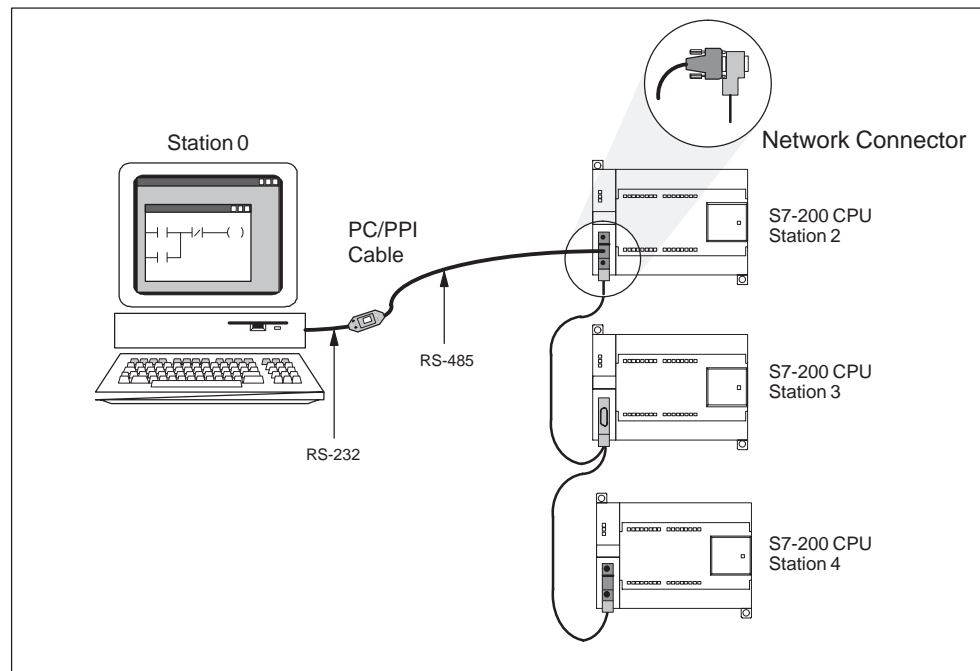
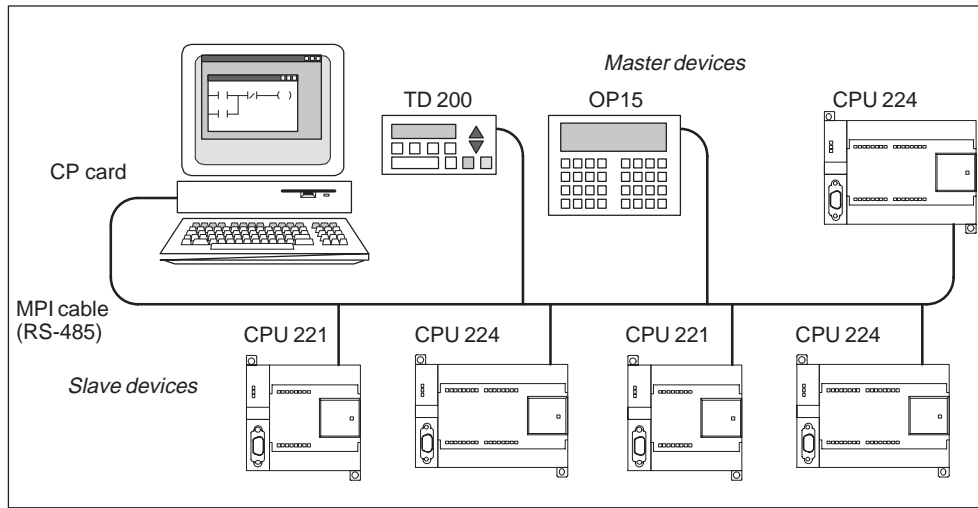

Figure 7-1 Using a PC/PPI Cable for Communicating with Several S7-200 CPUs
Figure 7-2 Example of a CP Card with Master and Slave Devices
- **Single Master:** A single master device is connected to one or more slave devices. See Figure 7-1.
- **Multiple Master:** A single master device is connected to one or more slave devices and one or more master devices. See Figure 7-2.
Figure 7-1 and Figure 7-2 show a configuration with a personal computer connected to several S7-200 CPUs. STEP 7-Micro/WIN 32 is designed to communicate with one S7-200 CPU at a time; however, you can access any CPU on the network. The CPUs could be either slave or master devices. The TD 200 is a master device. For detailed information on network communications, see Section 7.5.
Each card provides a single RS-485 port for connection to the PROFIBUS network. The CP 5511 PCMCIA card has an adapter that provides the 9-pin D port. You connect one end of an MPI cable to the RS-485 port of the card and connect the other end to a programming port connector on your network. See Figure 7-2. For more information on the communications processor cards, see the *SIMATIC Components for Totally Integrated Automation Catalog ST 70*.